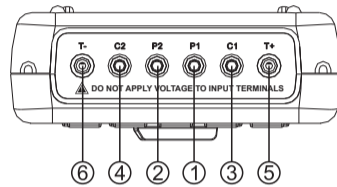

Figure 2
V. Input Terminals Description (Figure 2)